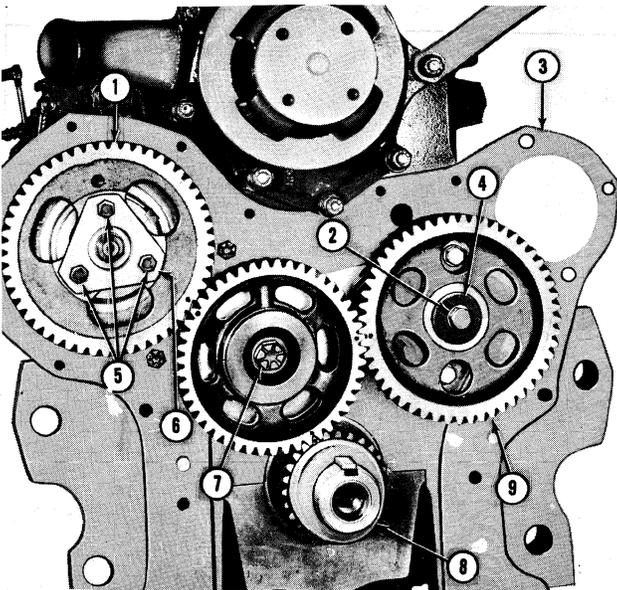

Figure 24
Turn the crankshaft until the camshaft gear is in the approximate timed position, Figure 24.
Remove the three retaining bolts that retain the injection pump drive gear, Figure 24, to the pump adapter plate and remove the gear.
1. Remove the bolt and flat washer, as shown in Figure 24.
When removing and reinstalling any or all of the timing gears, be sure that the timing marks line up correctly, as shown in Figure 24. On all engines, the No. 1 piston must be at T.D.C. on the firing stroke, when the timing marks are aligned.
2. Install the oil slinger dish out, Figure 24.